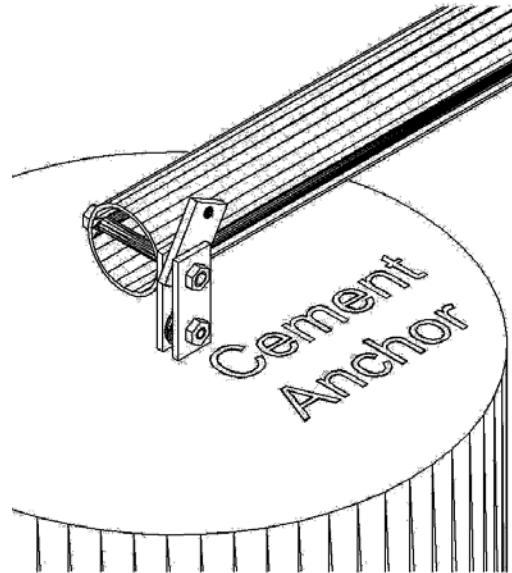
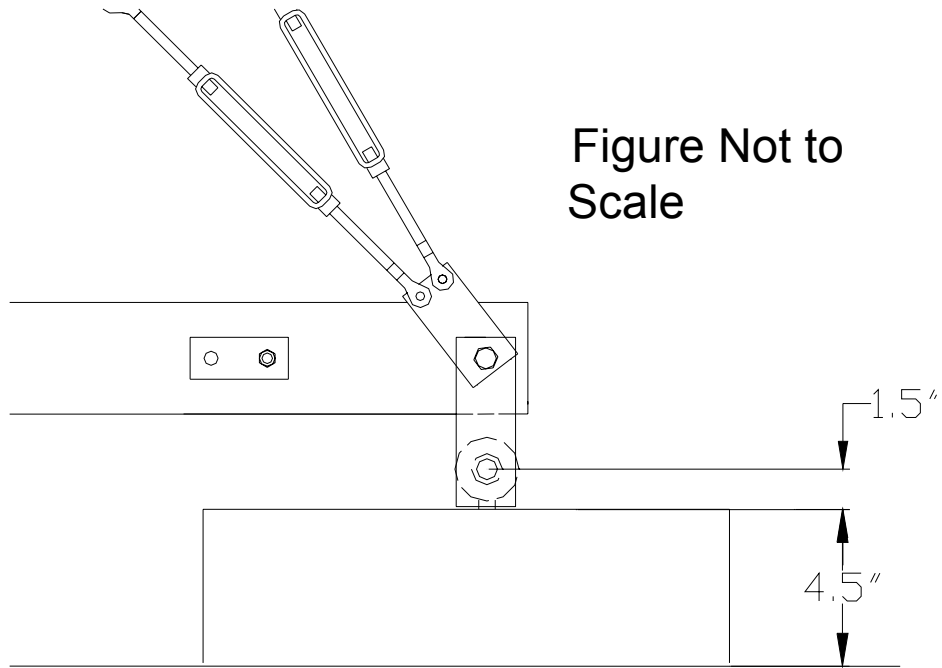
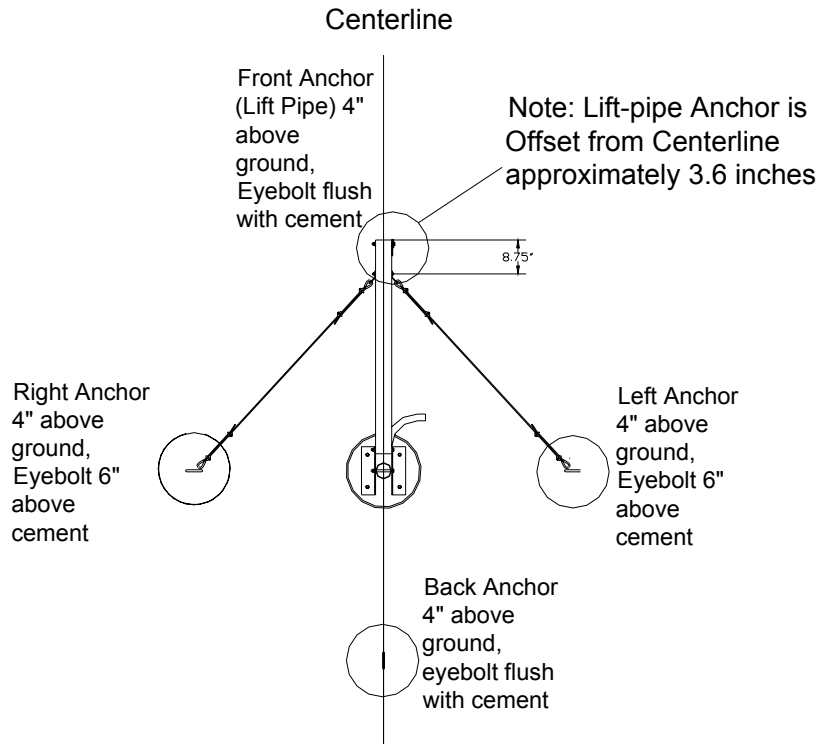
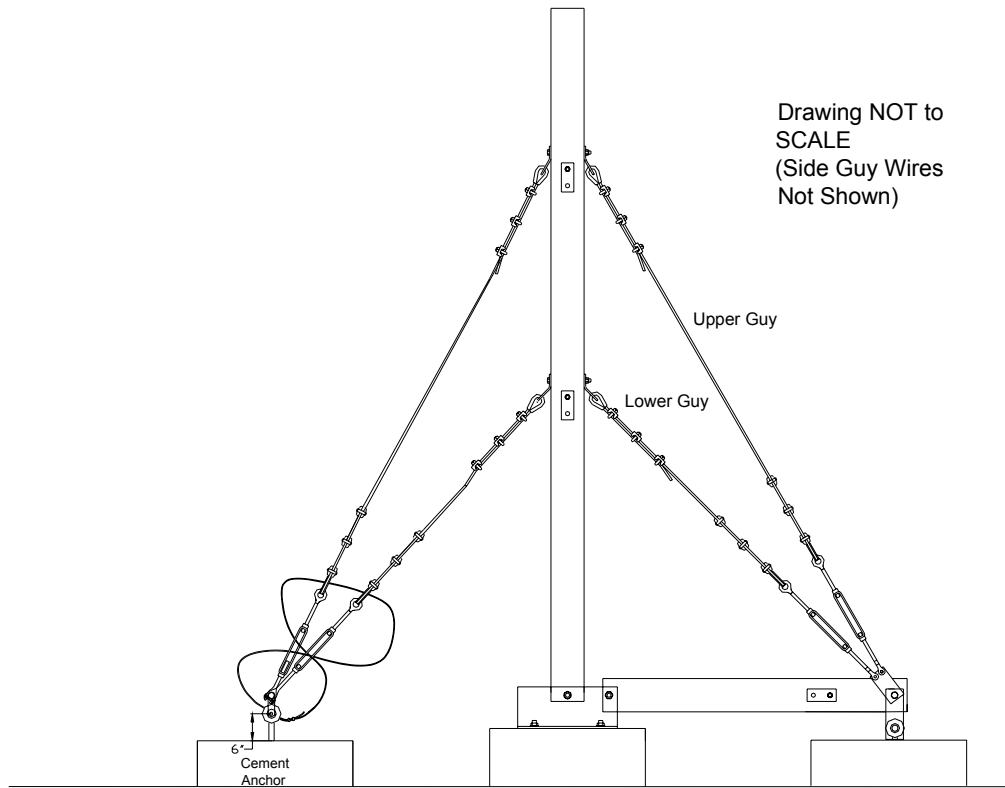

Figure 4.1: Ginpole Anchor Angle View
Figure 4.2: Side View of Ginpole Anchor (Eyebolt Flush with Concrete)
Figure 7: Birdseye View of Anchors and Lift-Pipe
Figure 8: Tower Assembly Side View
The base anchor should be 6 inches above ground level. The four guy wire anchors should be 4 inches above ground level (see Figure 2). The two side anchors should have the center of the 3/4" x 12" eyebolt located **6 inches** above the top of the concrete anchor (see Figure 4.3). The backside anchor and the lift-pipe anchor should have the center of the 3/4" x 8" eyebolts **1.5 inches** above the concrete anchor (see Figure 4.2). The lift anchor has hardware and plates that connect it to the lift-pipe anchor (see Figure 4.1 and 4.2), and if you do not level the anchors appropriately you will have problems installing the kit. Also, the anchor for the gin pole is offset to the side between 3 and 4 inches to accommodate the linkage hardware (see Figure 7). See Figure 4.2 and Figure 8 for details.
The last hole to be drilled is the one in the gin pole that connects it to the steel anchor links (see Figure 4.2). This hole cannot be drilled until the anchors are in place and the assembled gin pole is bolted to the base angles.
- Fasten the three steel plates to the gin pole with the 7/8" x 8" hex bolt as shown in Figures 4.1 & 4.2.
- Attach the side anchor guy wires to the gin pole as shown in Figure 7.
- The last set of guy wires are the ones that connect the gin pole to the tower pipe. For now, attach these wires to the turnbuckles that are attached to the gin pole (see Figures 4.2, 8, & 10). You will have an easier time attaching these cables to the tower pipe if you make a mark on each of these cables at the estimated point of attachment with the guy tabs on the tower pipe. This can be done by measuring appropriate amount of cable (see Table) and then bend the cable to mark it. These cables will eventually be attached to the tower pipe after the gin pole has been raised.
Figures 7, 8, 9.1 and 9.2 show details on how the guy wires should be assembled. Make sure you measure the length of the guy wires correctly, otherwise they will not be the proper length and you will spend much time resetting them. Leave about 6 inches of slack in the wires to allow for any misalignment or unnoted elevation differences (the wires will be adjusted more precisely later).
- The 7/8" hole should be located and drilled in the gin pole that connects the anchor to the gin pole via the steel plates. The steel plates should be secured to the gin pole with the large through-bolt. The two turnbuckles should be attached to the smaller steel plate. (see Figure 4.2)